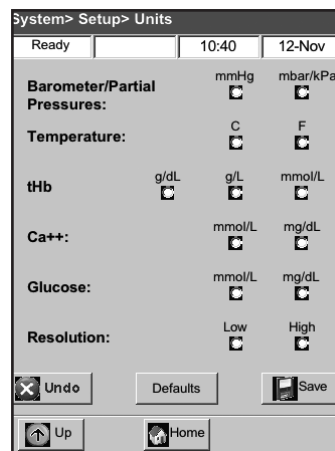

Figure H-18: System> Setup> Units screen
4. On the Units screen, select the desired unit of measurement (Figure H-18).